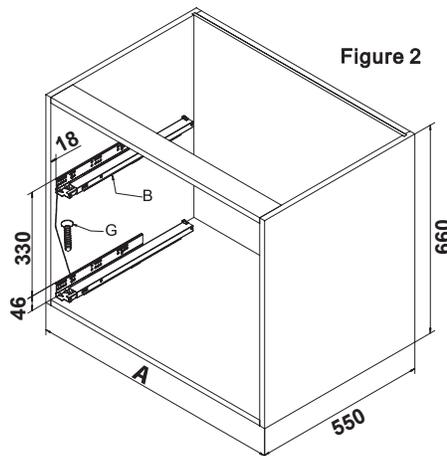

Figure 2
Use ST4X16 screws (G) to install the slide (B) in the cabinet according to the size of Figure 2.